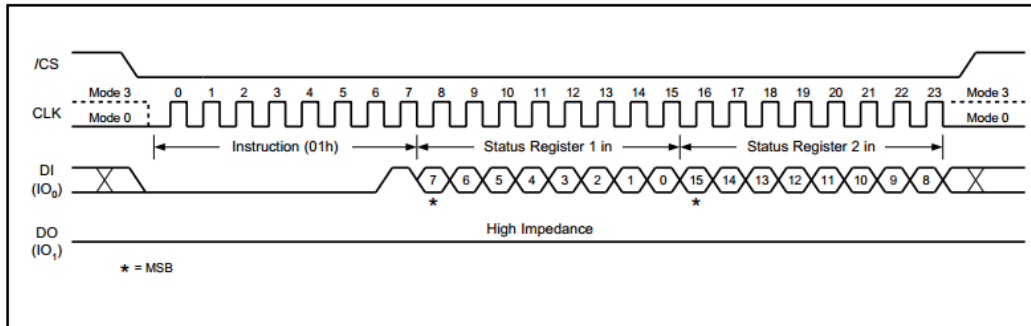
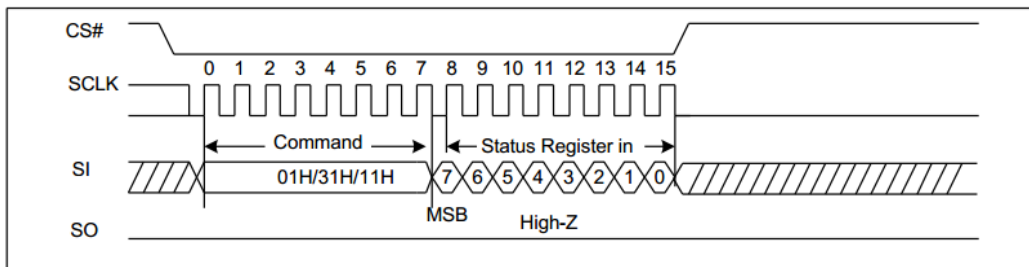

Fig 17-4 Write Status Register 1 & 2 sequence (FlashClass1, FlashClass2 when density < 2M)
Fig 17-5 Write Status Register 1/2 sequence (FlashClass2 when density > 2MB)
- For FlashClass1, the Write Status Register 2 is written together with the Write Status Register 1 using 0x01, as Fig 17-4 shows.
- For FlashClass2, when GD density is less than 2MB, the Write Status Register 2 is written together with the Write Status Register 1 using 0x01, as Fig 17-4 shows. When GD density is larger than 2MB, the Write Status Register 2 is written individually using 0x31, as Fig 17-5 shows.